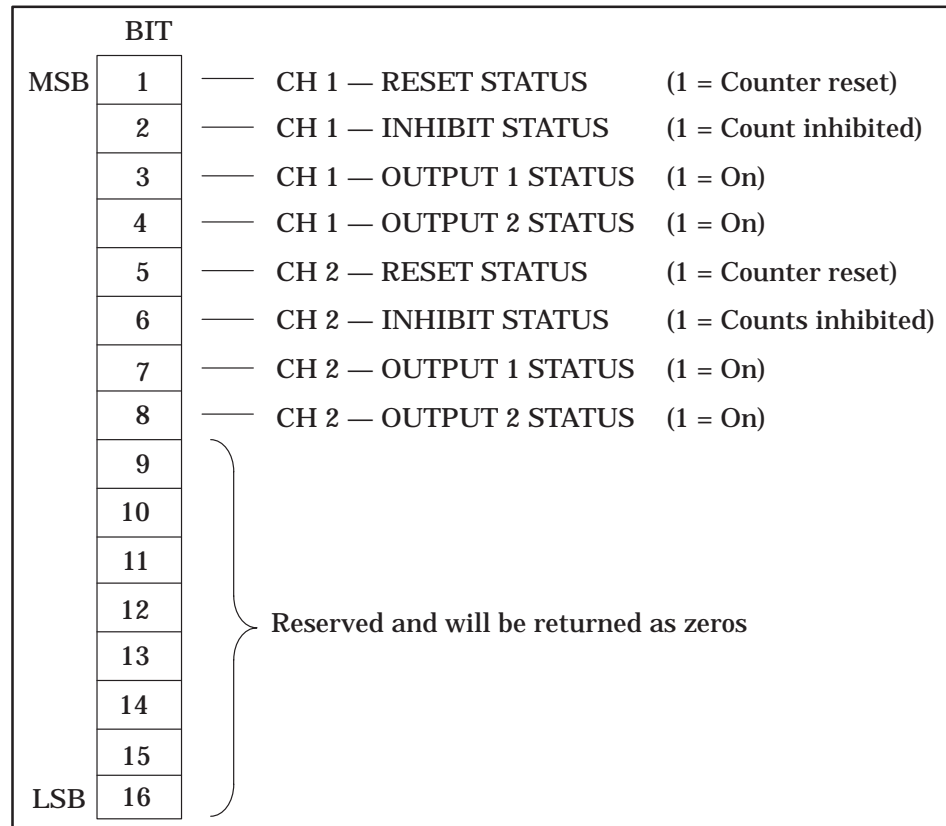

Figure 3-1 Status Word Format
Word 1 (WX) is the module's status word. Eight bits provide the status of each of the two channels. Figure 3-1 shows the format of the status word.